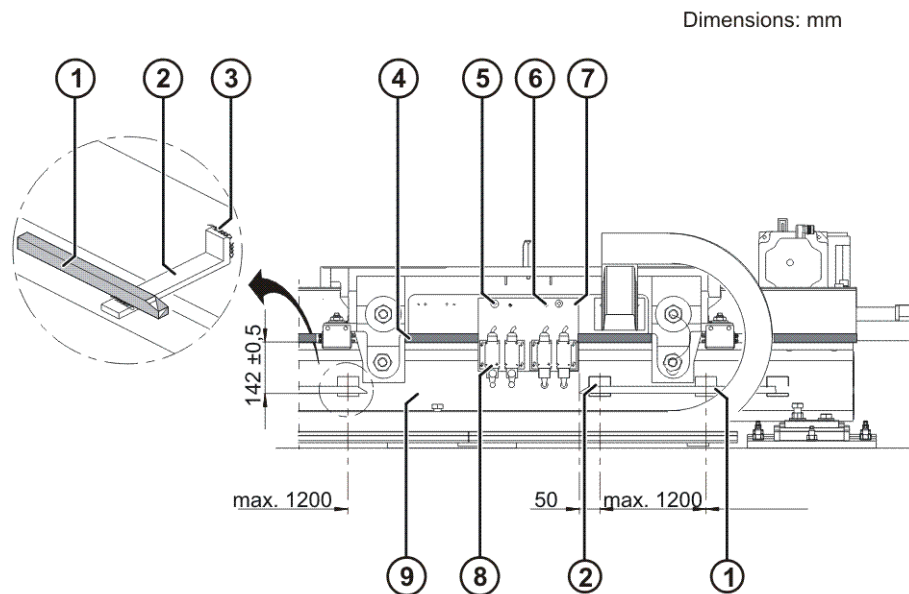

Fig. 14-2: Brackets and cams
1. Determine the installation position of the brackets (>>> Fig. 14-2) on the beam.
4. Mount the holder (>>> Fig. 14-2) and fasten it with M12x30 Allen screws.